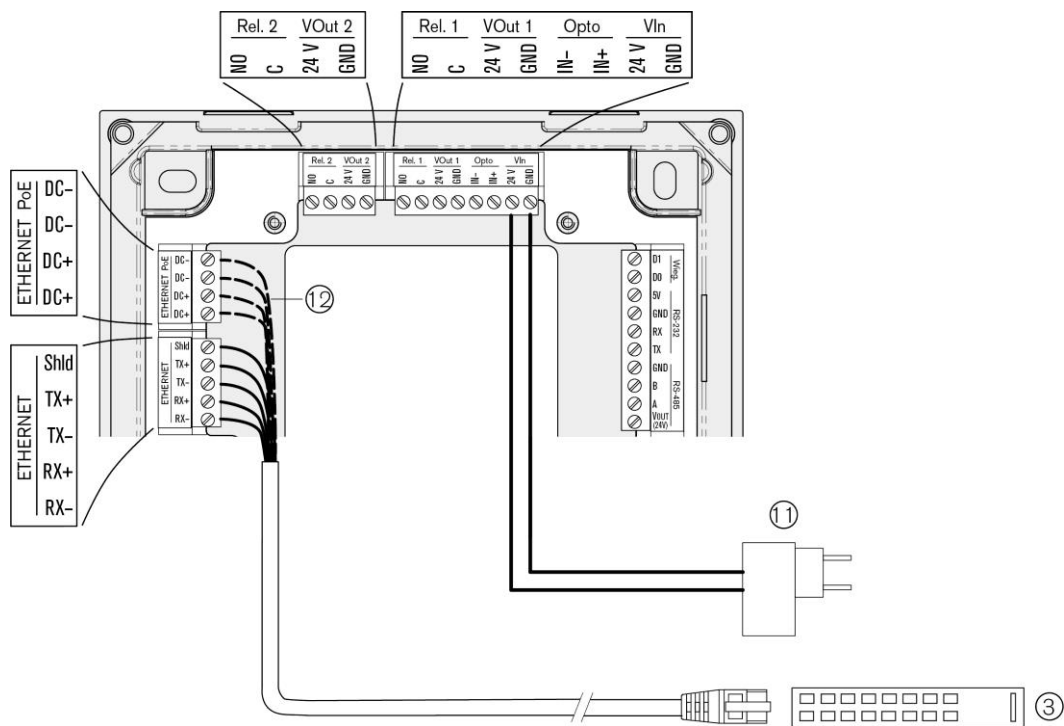

Fig. 4.2 – Connection of the power supply
1. See (11) - Via a separate power supply (LPS and SELV - Limited Power Source and Safety Extra-Low Voltage)
- ▶ Connect the wires of the power supply connection cable to the "Vin" screw terminals as shown in Fig. 4.2.
- ▶ Plug the power supply (11) into the power outlet.
2. See (12) - Via Power over Ethernet (PoE)